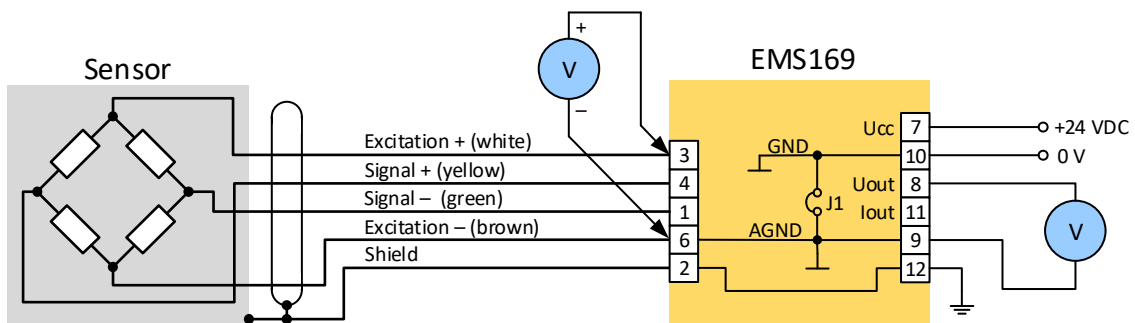

Fig. 9. Excitation sensor voltage measuring (with sensor)
4. **Sensor excitation test 2 (with sensor)**. Connect sensor to the signal conditioner according to figure 9. Measure again the excitation voltage at the clamps 3 and 6. It should be again  $+ 7.0 \text{ V} \pm 5 \text{ mV}$ .